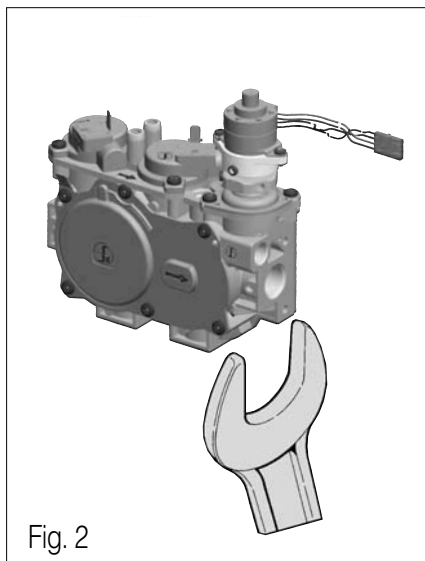

Fig. 2
5. Connect pipe to valve inlet and outlet. Place a 1" 1/16 wrench on valve as shown in Fig. 2.